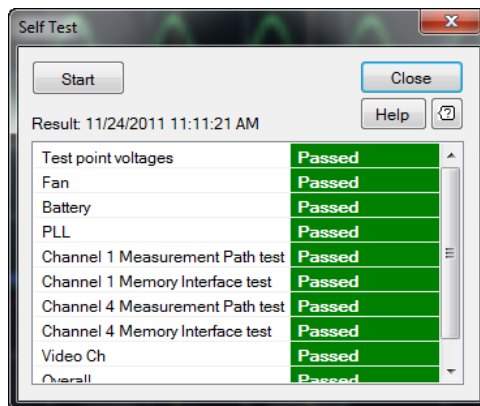

Figure 3-3 Self-test result in the Self Test dialog
- 4 The self-test result is displayed in the Self Test dialog as shown in Figure 3-3.